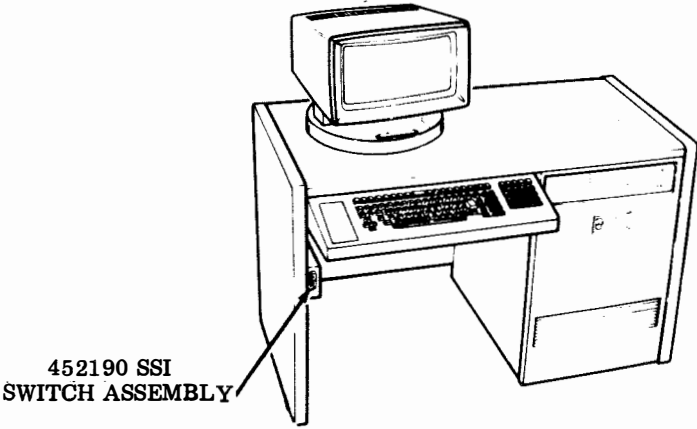

Fig. 4 - SSI SWITCH MOUNTING FOR ATTACHED KD
6.01 For an attached KD, the 452190 SSI Switch Assembly mounts in the kneewell against the left leg of the 45CAB501/AAA and 45CAB502/AAA KD Tables. It should be positioned conveniently below the left side of the keyboard and have its front edge in line with the rear edge of the black plastic edge trim of the left leg. Figure 4 illustrates this installation.